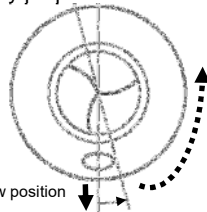

Fig. 4
3. Remove fixing screw from bottom of **front cover**. (Fig.4)